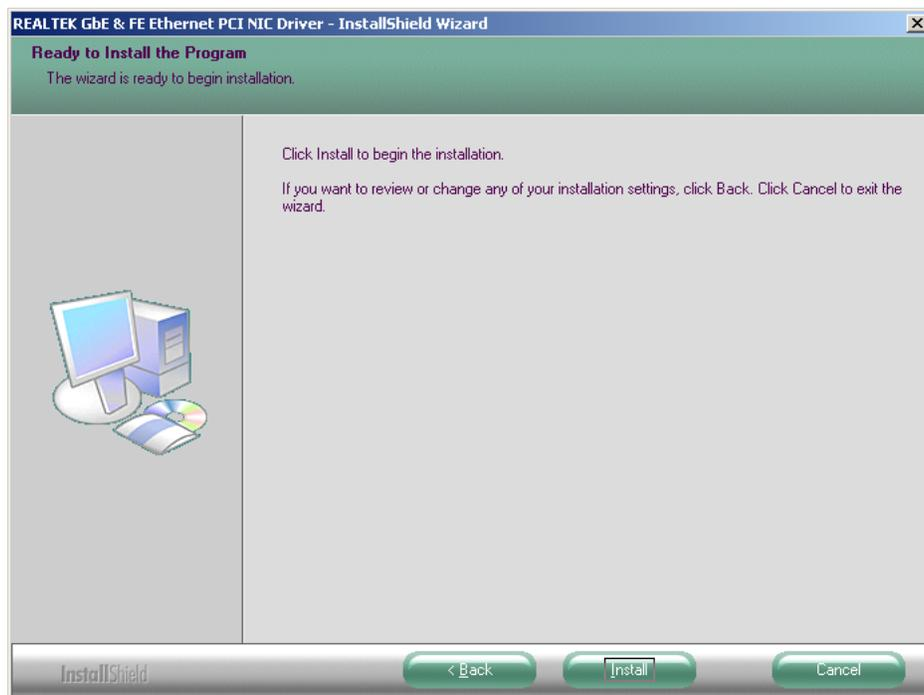

Figure 6-28: Install LAN
Step 8: The program is initialized and the Install window appears. Click “Install” to continue the installation process. See **Figure 6-28**.